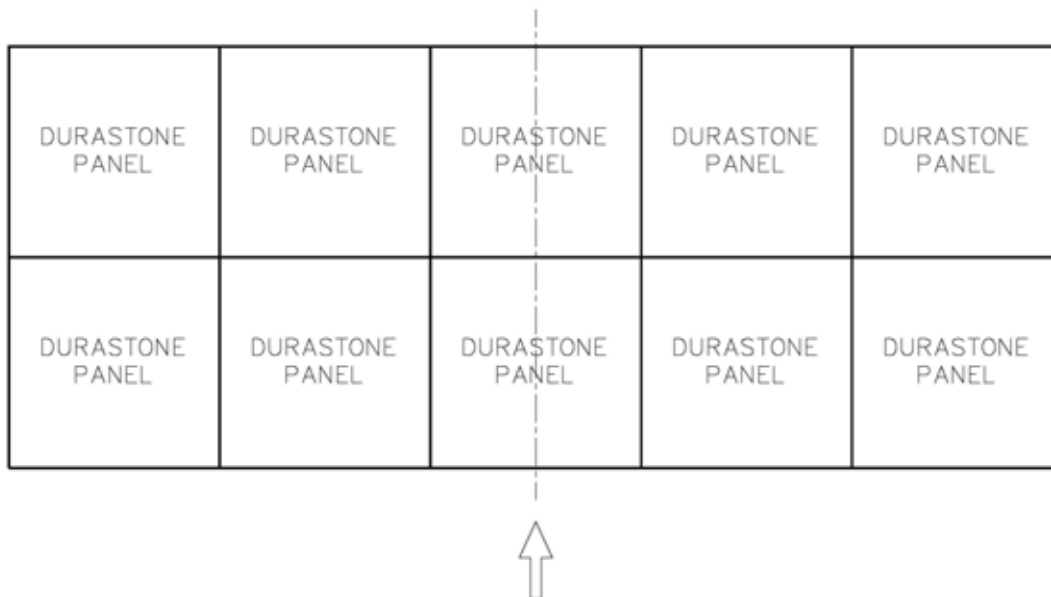

Fig. 3.1a
1. If the number of panels in a row is an *odd* number (see Fig 3.1a) set the first panel with the **center** of the panel aligned with the wall **center** line.